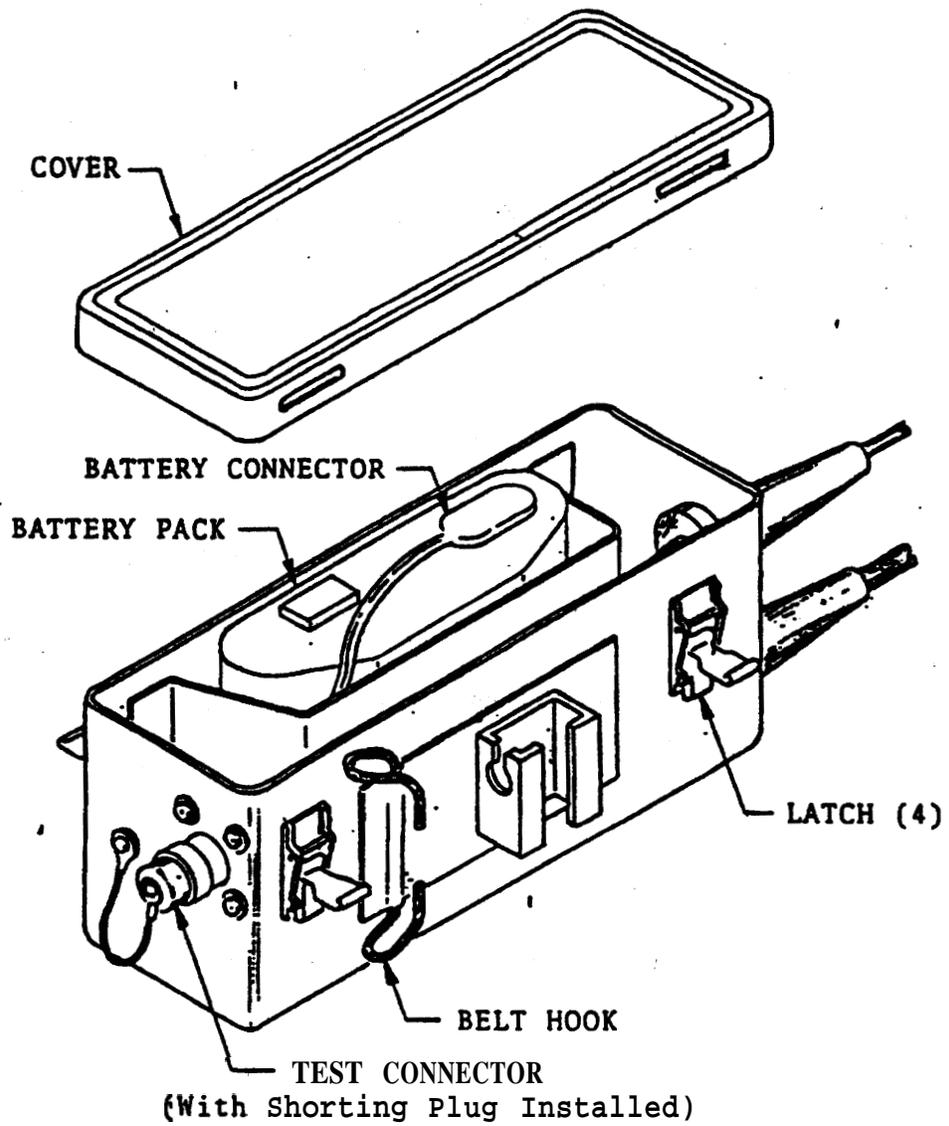

Figure 2-2. Control Box (Cover Removed)
(1) Battery Pack Insertion. Unfasten the four latches which secure the cover to the control box. Insert the battery pack into the control box with the snap terminals up. Note arrangement of the snaps on battery plug and snap the plug onto the battery pack accordingly (See figure 2-2.). Replace cover on control box, check for proper alignment, and secure with four latches.
(2) Battery Pack Removal. Battery pack replacement should be accomplished when the voltage has dropped to below 5 Volts. The absence of any sound in the headset is a signal to the operator that the battery voltage has dropped to 5 Volts or less and the system is no longer operating. Remove the control box cover, unsnap the battery plug from the battery pack and remove the battery pack from the control box.
(3) Battery Replacement. Remove the five C-size batteries from their holder and insert fresh ones. Make sure the batteries are correctly installed by observing the polarities indicated on the holder.